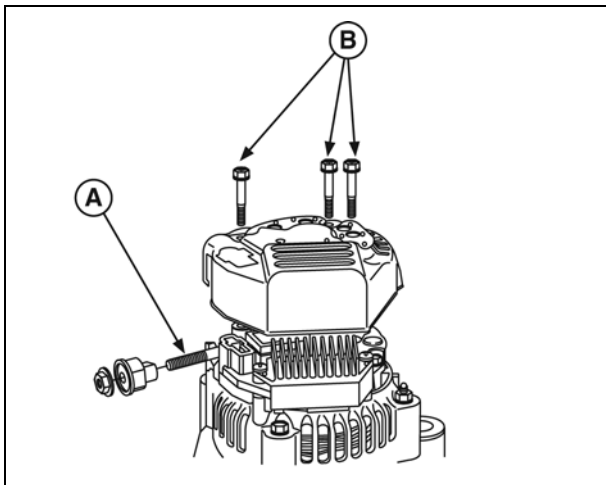

Figure 21
- Remove two screws and brush retainer assembly (A, Figure 21).